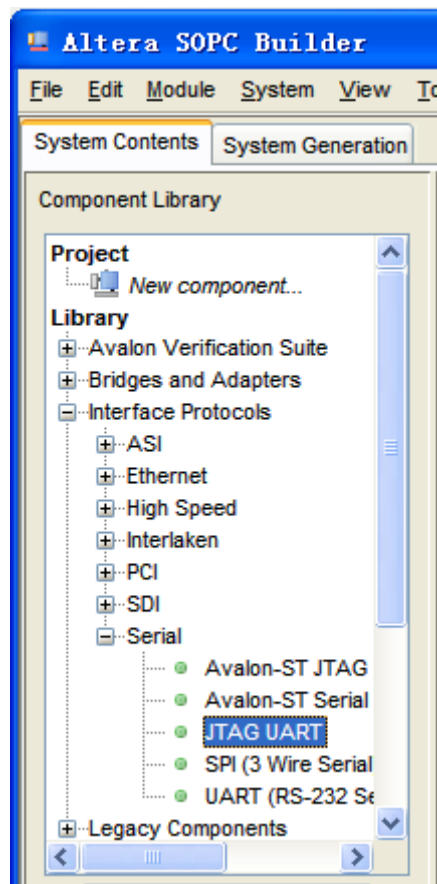
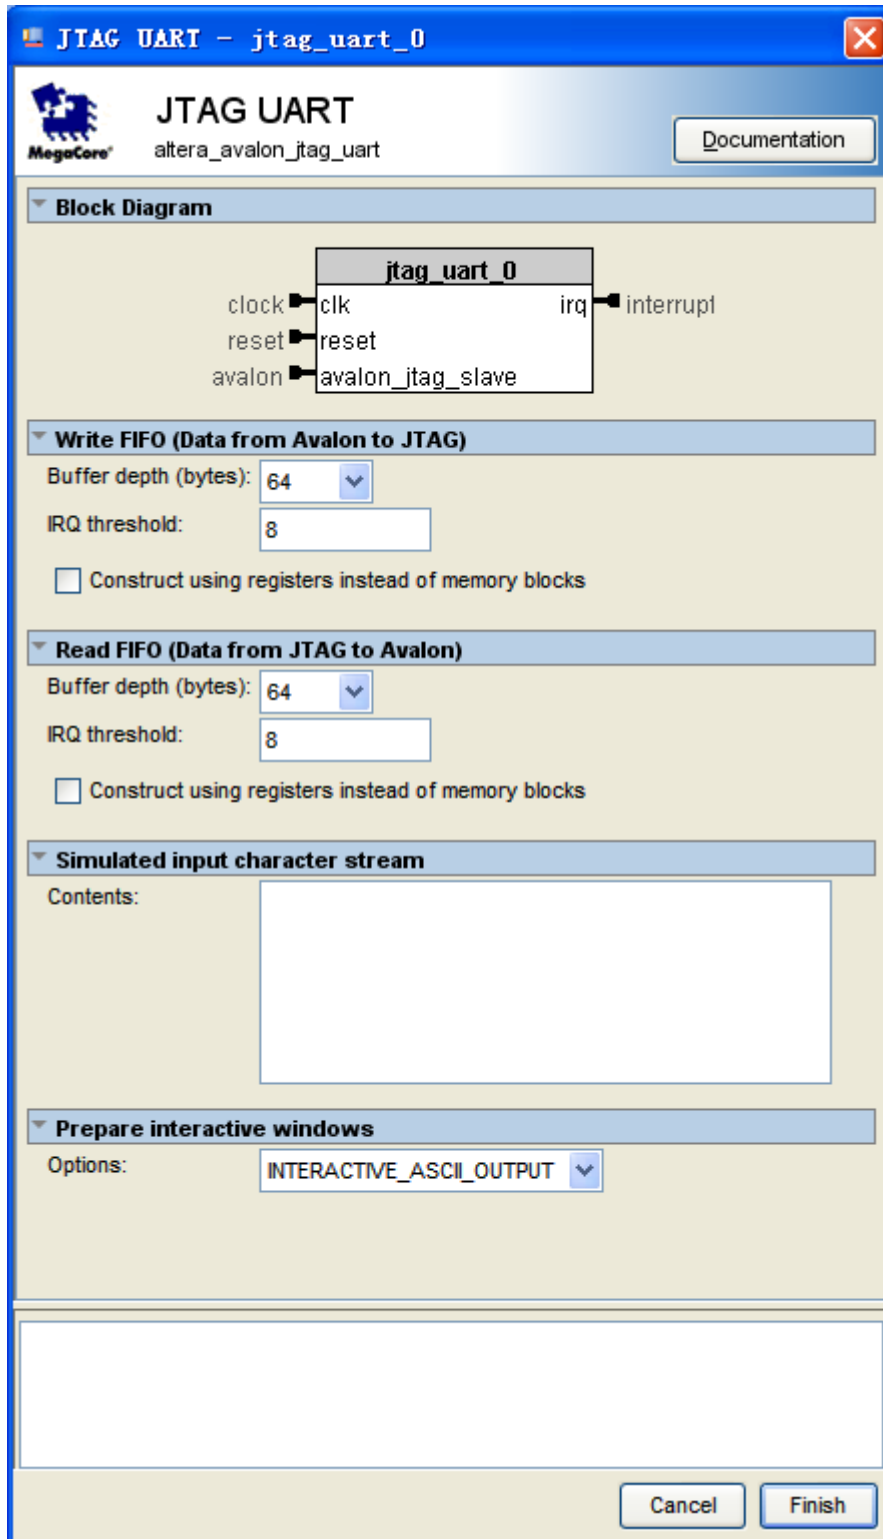

Figure 7-19 Add JTAG UART (1)
Figure 7-20 JTAG UART
11. Choose **Library > Interface Protocols > Serial > JTAG UART** to open wizard of adding JTAG UART. See **Figure 7-19** and **Figure 7-20**.